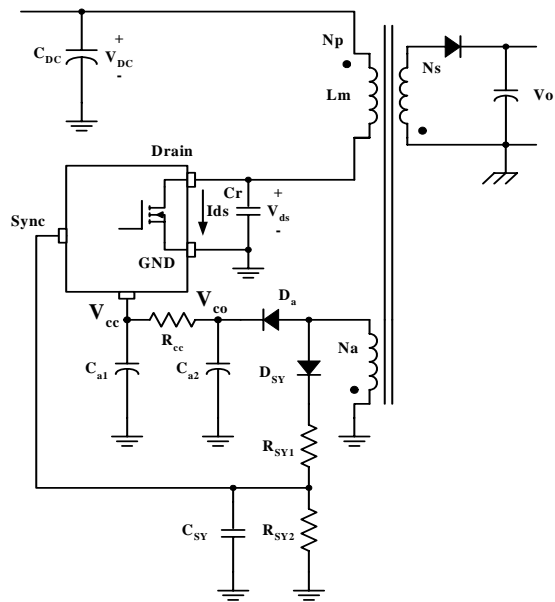
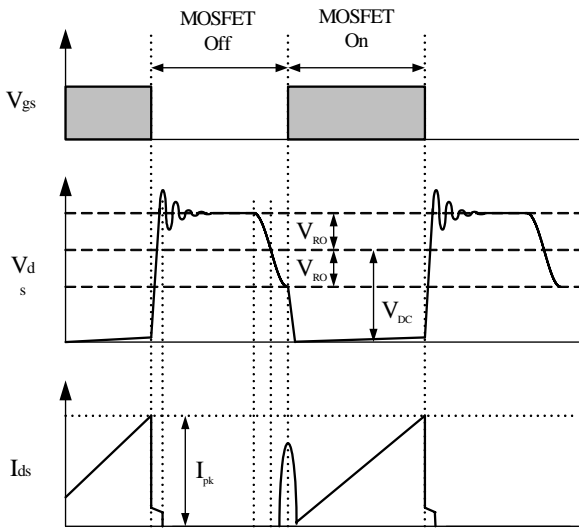
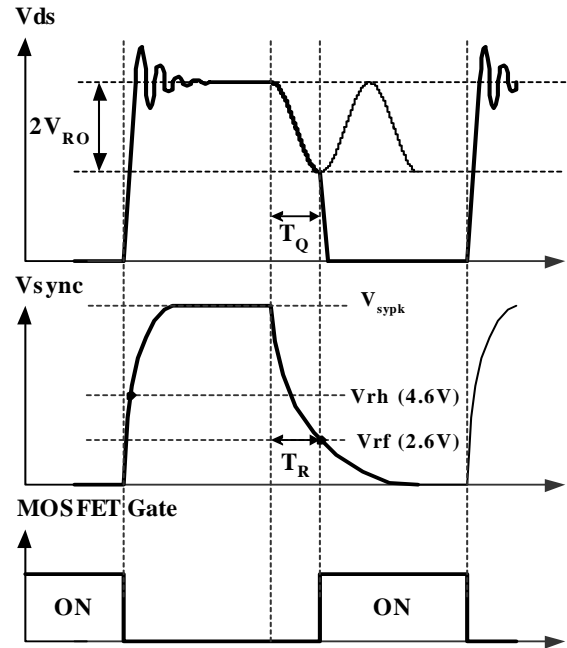

Figure 6. Synchronization Circuit
Figure 7. Quasi-resonant Operation Waveforms
Figure 8. Normal Quasi-Resonant Operation Waveforms
2. **Synchronization:** The FSCQ-Series employs a quasi-resonant switching technique to minimize the switching noise and loss. In this technique, a capacitor (Cr) is added between the MOSFET drain and the source as shown in Figure 6. The basic waveforms of the quasi-resonant converter are shown in Figure 7. The external capacitor lowers the rising slope of the drain voltage to reduce the EMI caused when the MOSFET turns off. To minimize the MOSFET's switching loss, the MOSFET should be turned on when the drain voltage reaches its minimum value as shown in Figure 7.
The minimum drain voltage is indirectly detected by monitoring the Vcc winding voltage as shown in Figure 6 and 8. Choose voltage dividers, R_{SY1} and R_{SY2} , so that the peak voltage of the sync signal (V_{sypk}) is lower than the OVP voltage (12V) to avoid triggering OVP in normal operation. It is typical to set V_{sypk} to be lower than OVP voltage by 3-4 V. To detect the optimum time to turn on MOSFET, the sync capacitor (C_{SY}) should be determined so that T_R is the same with T_Q as shown in Figure 8. The T_R and T_Q are given as, respectively